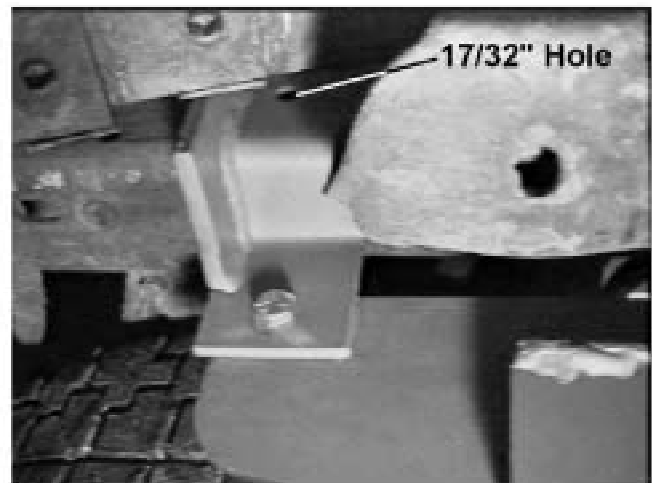

Figure 7
4. Using bracket as a template, center punch and drill a 17/32" hole in vertical web of frame, one on each side. See Figure 7.